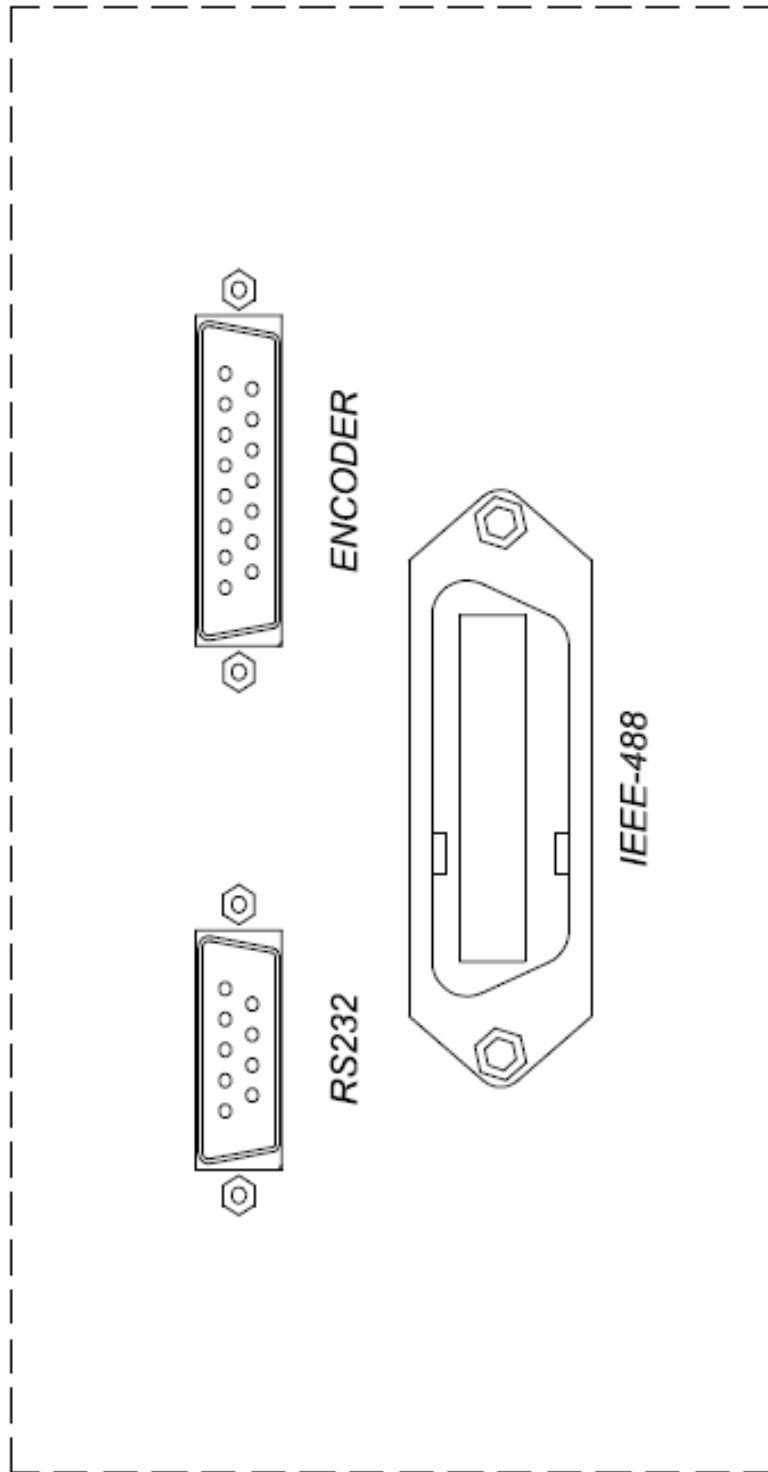

Figure 2.2
This connector is accessed by opening the “Interface Connectors” access panel. The connector is a standard DB-9 female connector used for a serial RS232 interface. It can be connected directly to the “COM” port of a standard PC to allow communication. This port is normally used for downloading “profiles” from a computer. Other remote communication with the 6300-M4 is also possible through this interface. Figure 2.2 shows the RS232 connector (6) with the panel removed. For more details on downloading profiles, please refer to Section 4. For more details on communication with the 6300-M4, please refer to Section 8.